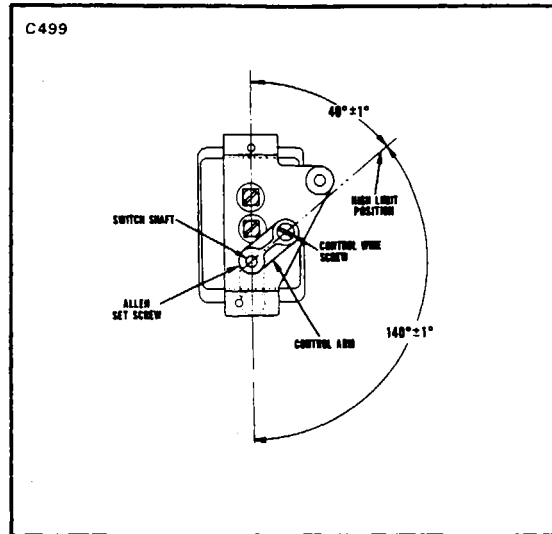

Figure 13-24. Top View - Duct Switch (Typical Control Lever Positions)
13-95. DUCT SWITCH. (Refer to Figure 13-24.) This switch is installed in the ventilating air duct downstream from the heater to sense the ventilating air outlet temperature. To select the desired cabin temperature, the switch may be adjusted manually from a high of $250^{\circ}\text{F} \pm 10^{\circ}$ downward through a range of $146^{\circ}\text{F} \pm 6^{\circ}$. The switch has a differential of $10^{\circ}\text{F} \pm 5^{\circ}$ at any given setting.
- h. Connect the duct switch control cable to the switch on the left side of the air distribution box. Adjust the cable so that when the control knob is full in against its stop, the control arm aligns with the vertical line of the switch. (Do not loosen the allen set screw that secures the arm to the switch shaft.) Pull the control knob out to ascertain that the control arm will have a $140^{\circ} \pm 1^{\circ}$ travel to high heat position. (Refer to Figure 13-24.)